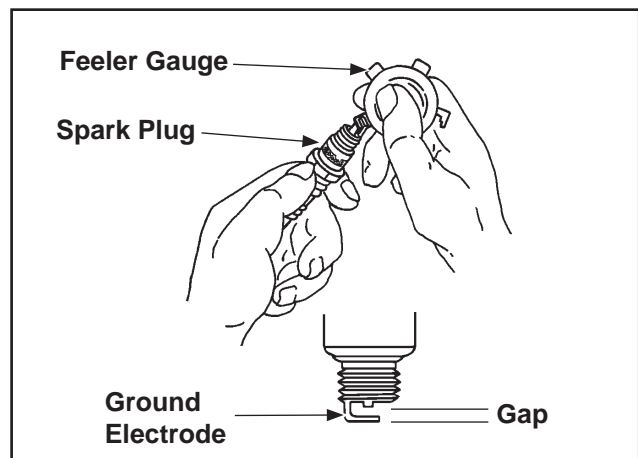

Figure 18. Spark Plug Gap.
3. Check the gap using a feeler gauge. See Figure 18.